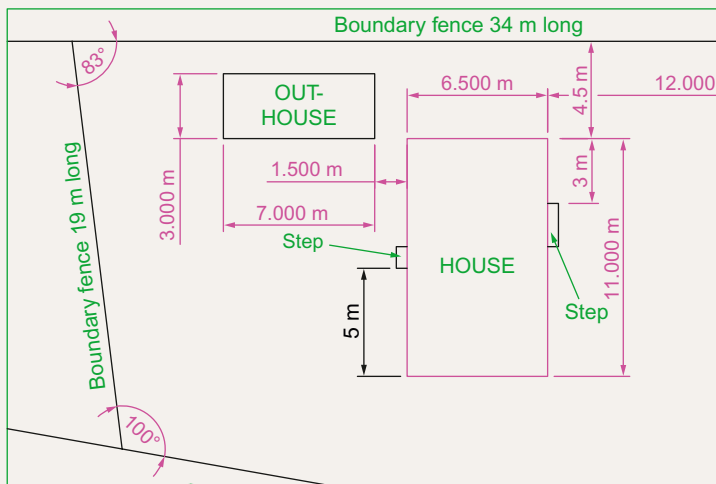

Fig. 16.29 Exercise 2
2. Fig. 16.29 is a site plan of a two-storey house of a building plot. Design and construct to a scale 1:50, a suggested pair of floor layouts for the two floors of the proposed house.